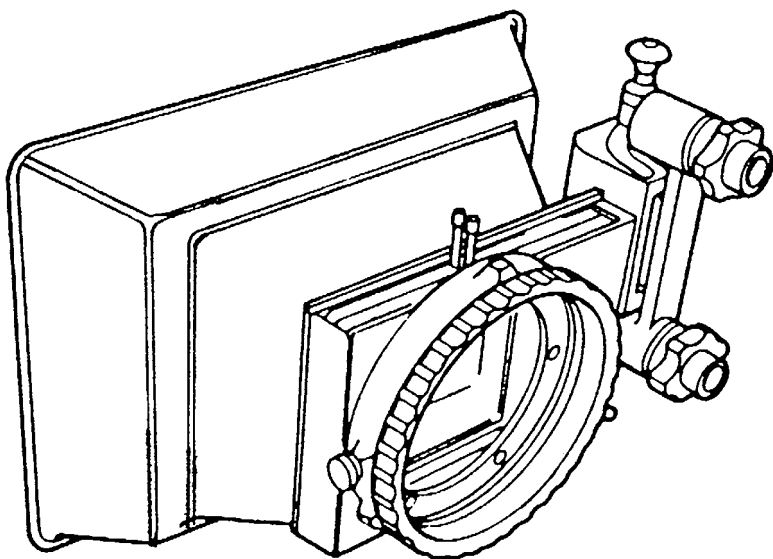

Figure 4.7 Matte box. (Reprinted from the *Panaflex Users Manual* with permission of David Samuelson and Panavision Inc.)
- Hard mattes mount securely and are the correct size for each lens (see Figure 4.7).